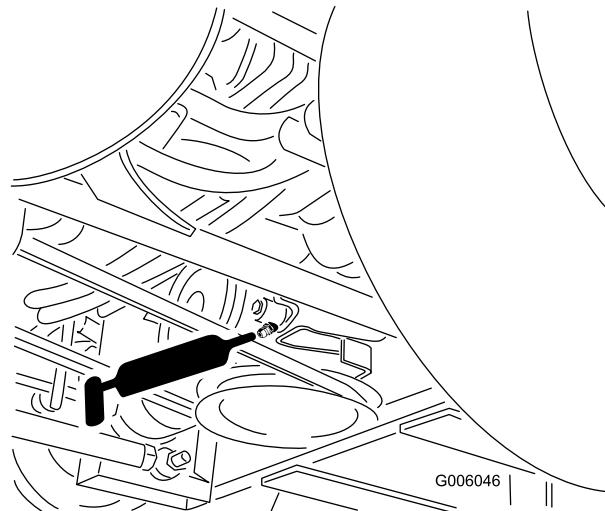

Figure 8
6. Check the grease for the PTO drive belt idler arm (Figure 8).